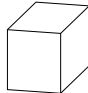

Fig. 2.3 (Install front screws, washers & lock nuts)
**2.3** Per figure 2.3, install front mounting hardware listed below. Install rubber seal washer against roof then steel washer and screw. Note that the center bolt location may require assistance to tighten down.